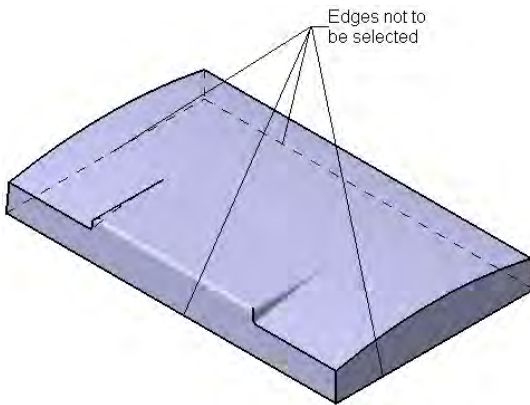

Figure 5-98 Edges not to be selected
8. Select all the edges of the model, except the edges shown in Figure 5-98, and set the value of the **Radius** spinner to **5**.